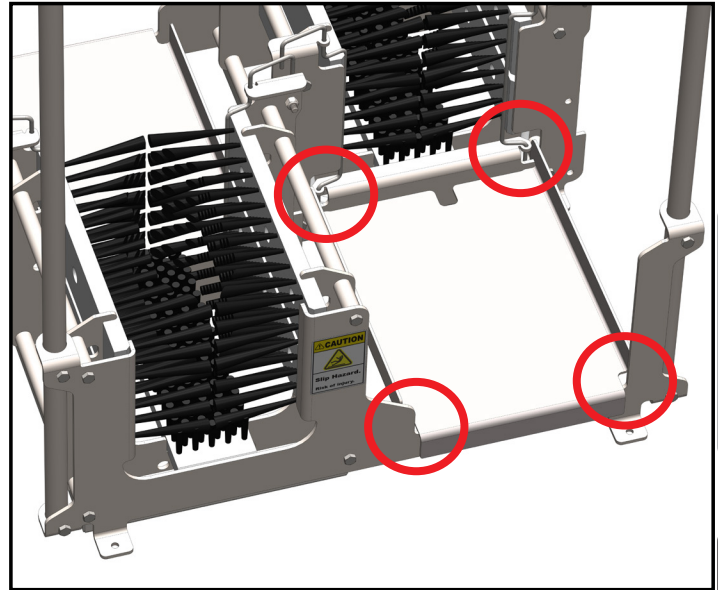

Fig. 5.1: Inserting Foot Plate
2. Make sure the notches on the plate line up with the holes on the unit, as shown in [Figure 5.1].